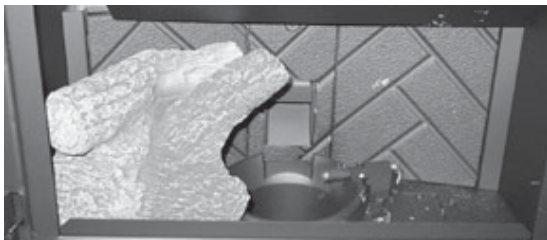

Figure 24.1
2. Install the left log first and then the right log. **Figure 24.1**